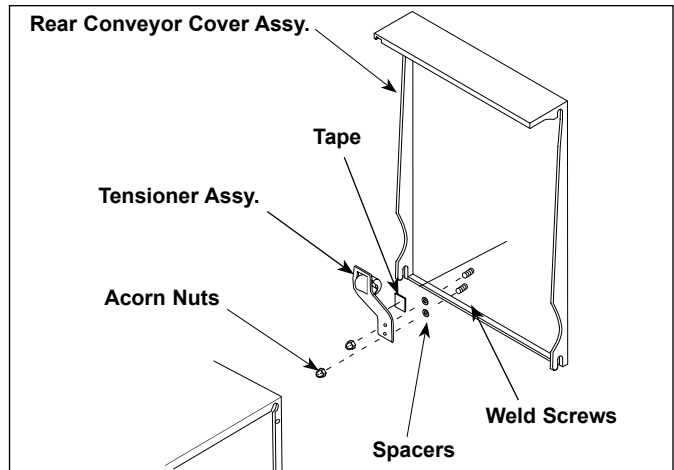

Figure 15. Replacing Roller Tensioner Assy.
1. Remove acorn nuts (Figure 15).